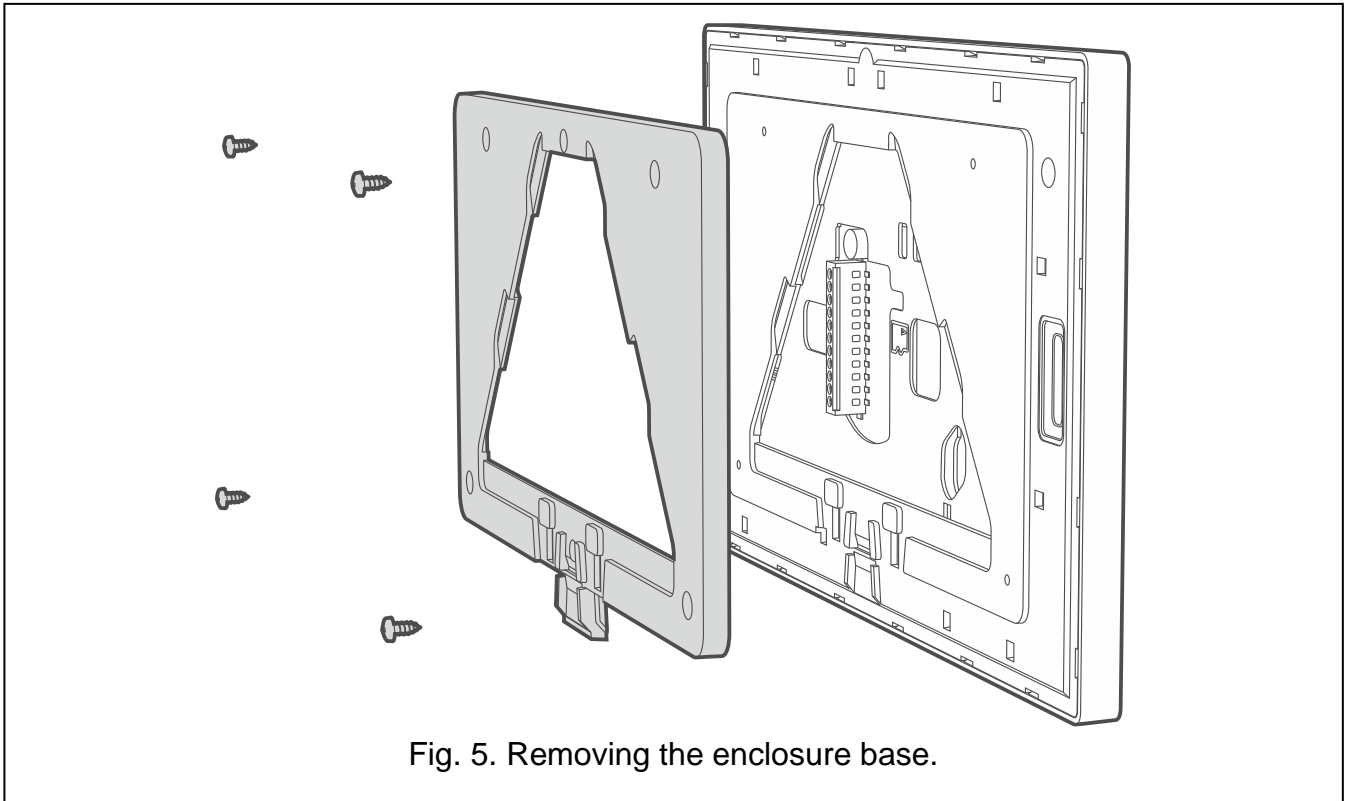

Fig. 5. Removing the enclosure base.
2. Remove the screws and remove the enclosure base (Fig. 5).